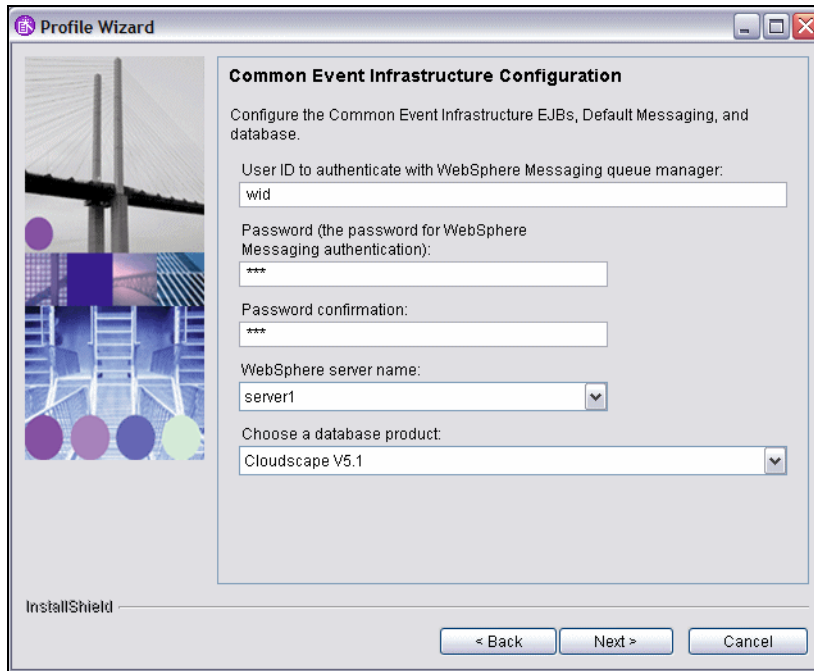

Figure A-24 WebSphere Process Server: CEI configuration
- ▶ Enter a valid user ID and password, and database product for the Common Event Infrastructure Configuration (Figure A-24). In our example we use wid.